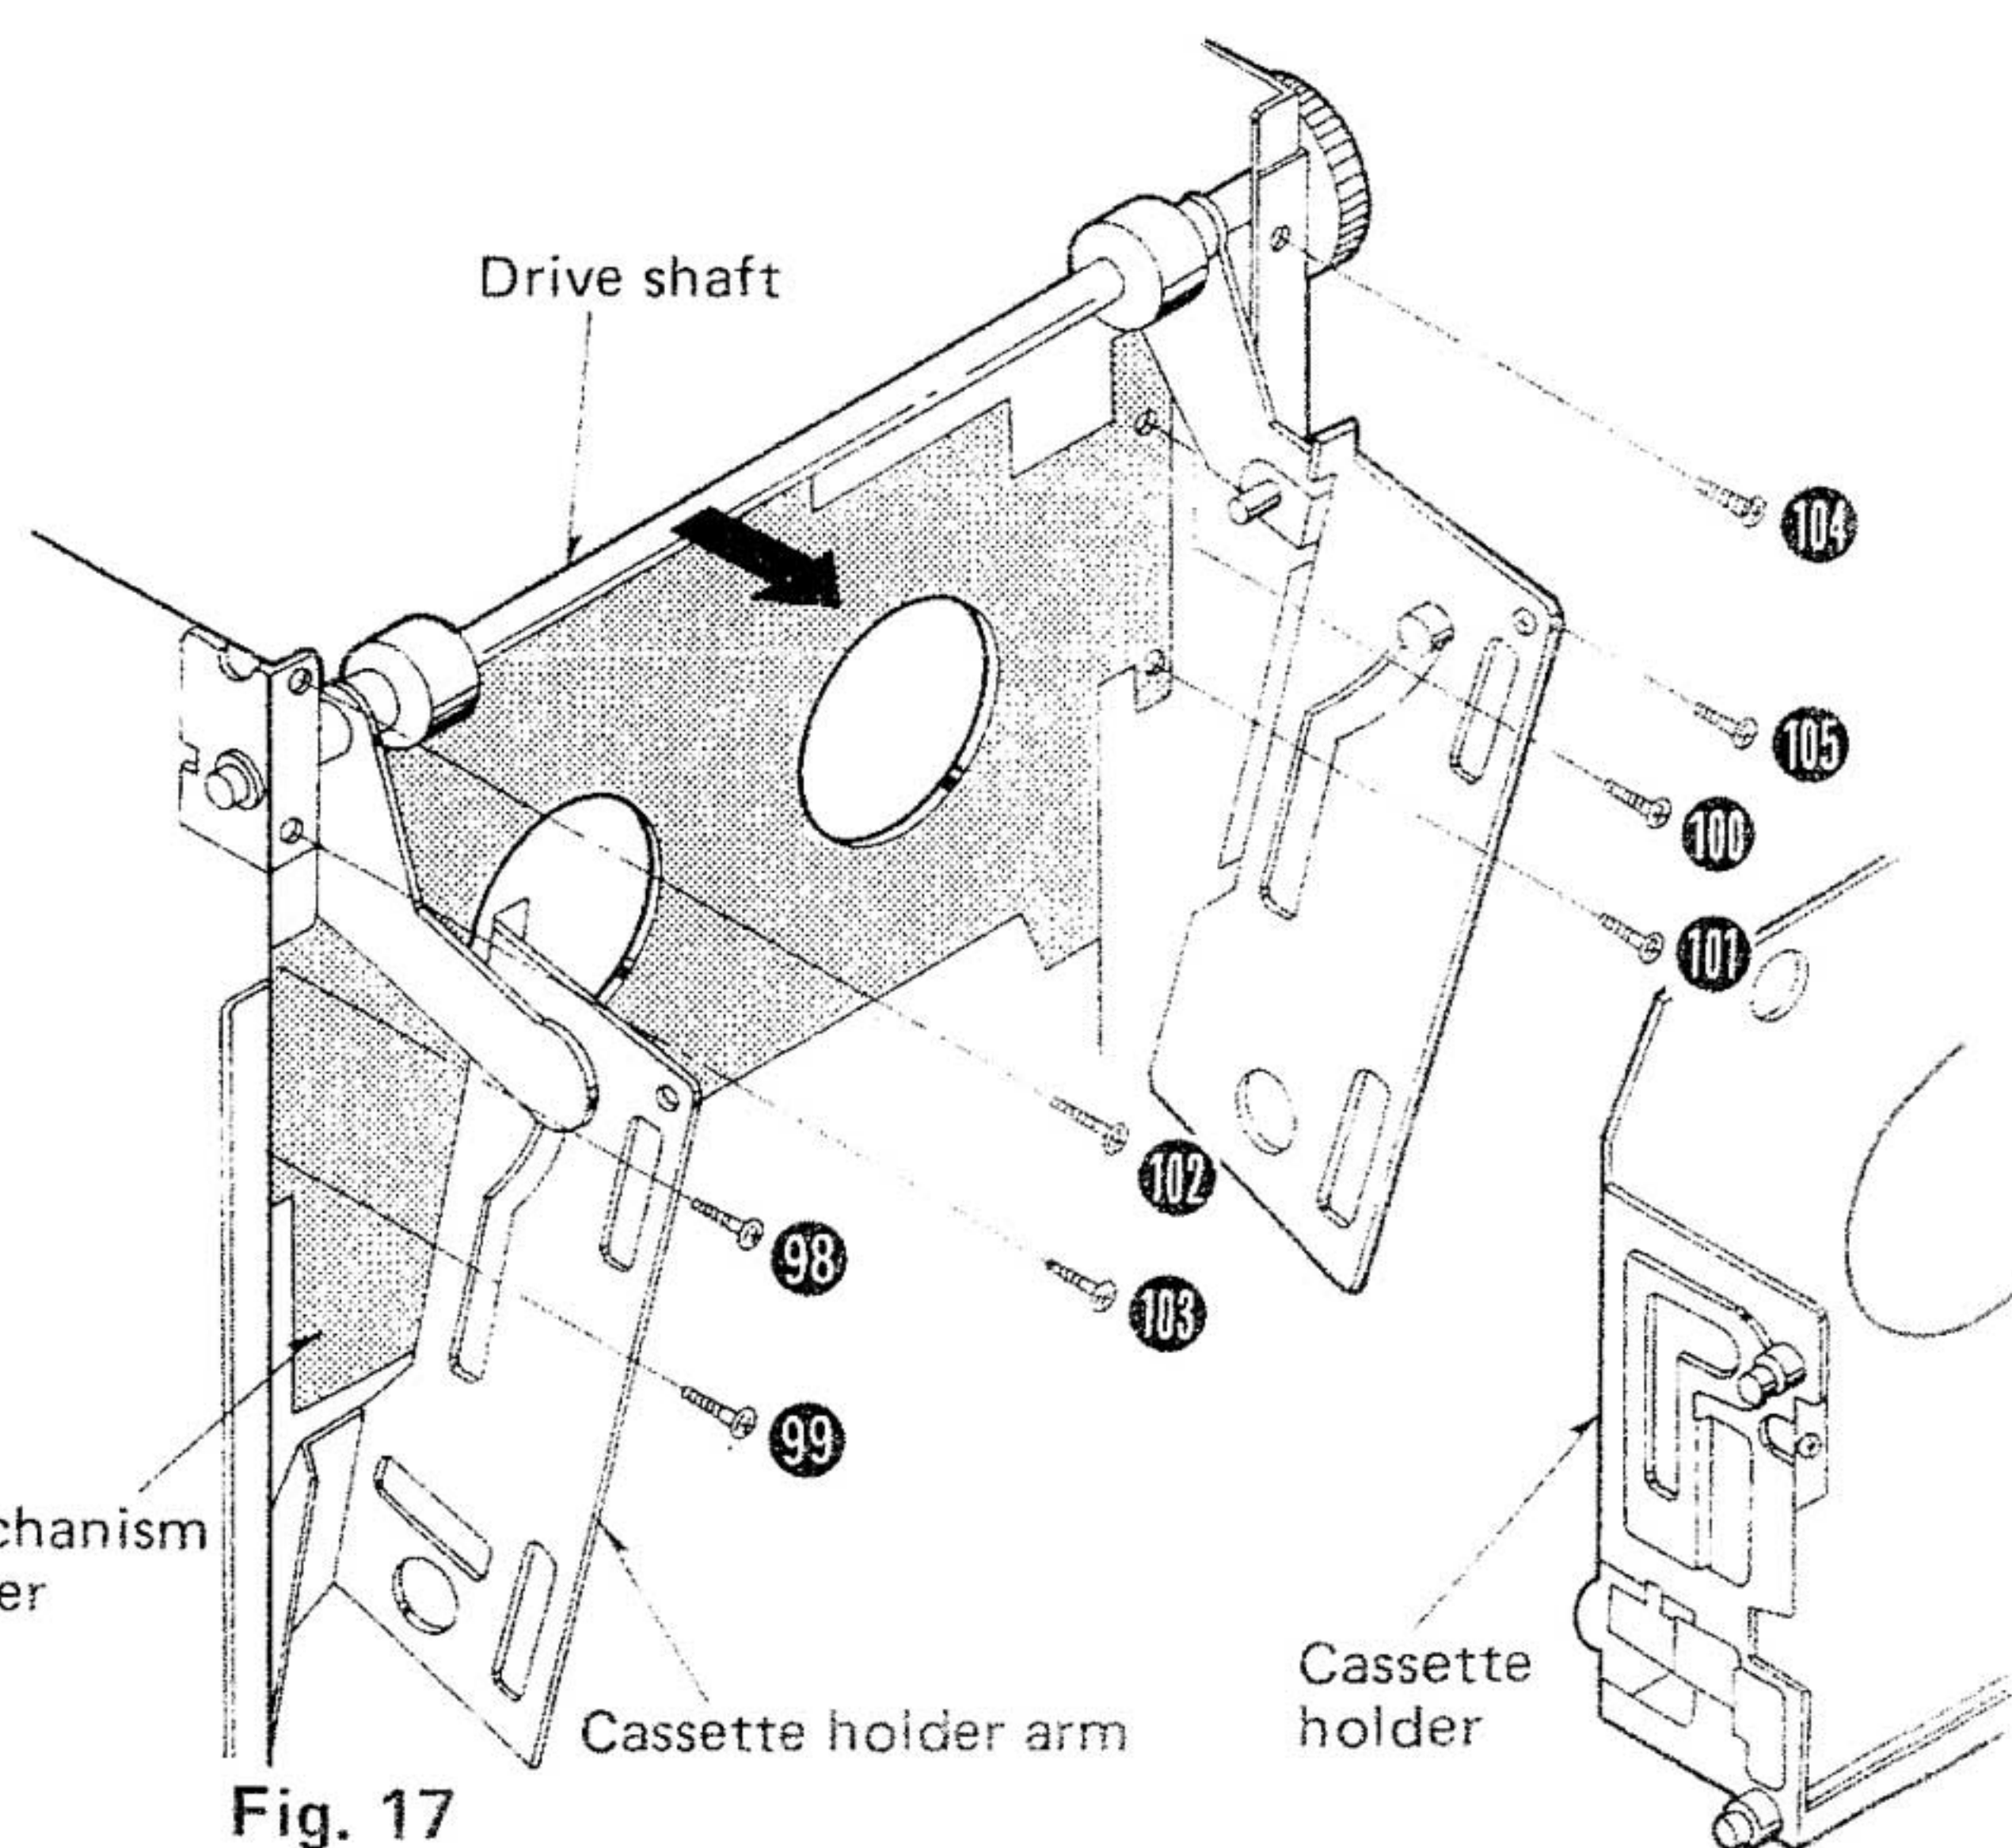

Fig. 17
2. Unfold the cassette holder arms to the right and left to remove the cassette holder. (See Fig. 17)
3. Remove the 4 setscrews (Fig. 17 : 98 ~ 101 ) of the mechanism cover.
4. Remove the 4 setscrews (Fig. 17 : 102 ~ 105 ) of the drive shaft. Draw the shaft in the direction of the arrow and lift up the mechanism cover.